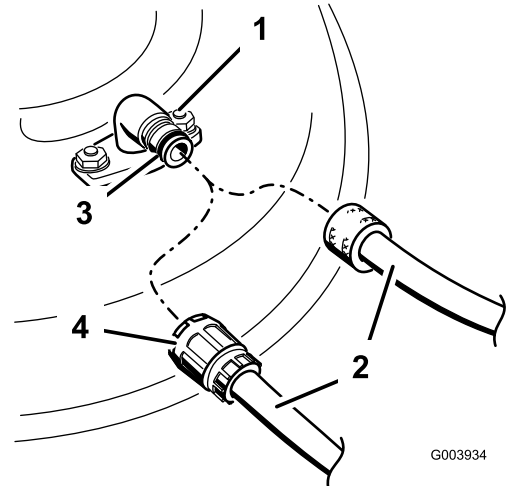

Figure 21
- Attach a hose to the washout fitting, and turn the water on high (Figure 21).